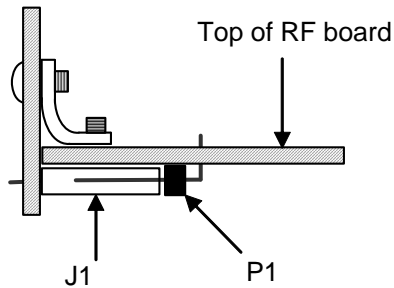

Figure 14. Installing J1 and P1.
- Position the front panel PCB as shown in Figure 14. The pins of J1 should be inserted into the holes in the front panel PCB, and the two L-brackets should be aligned with their outlines on the back of the front panel PCB. The edge of the RF PCB fits between the socket for U1 and Q2, Q3, Q4 and Z1 on the front panel PCB.